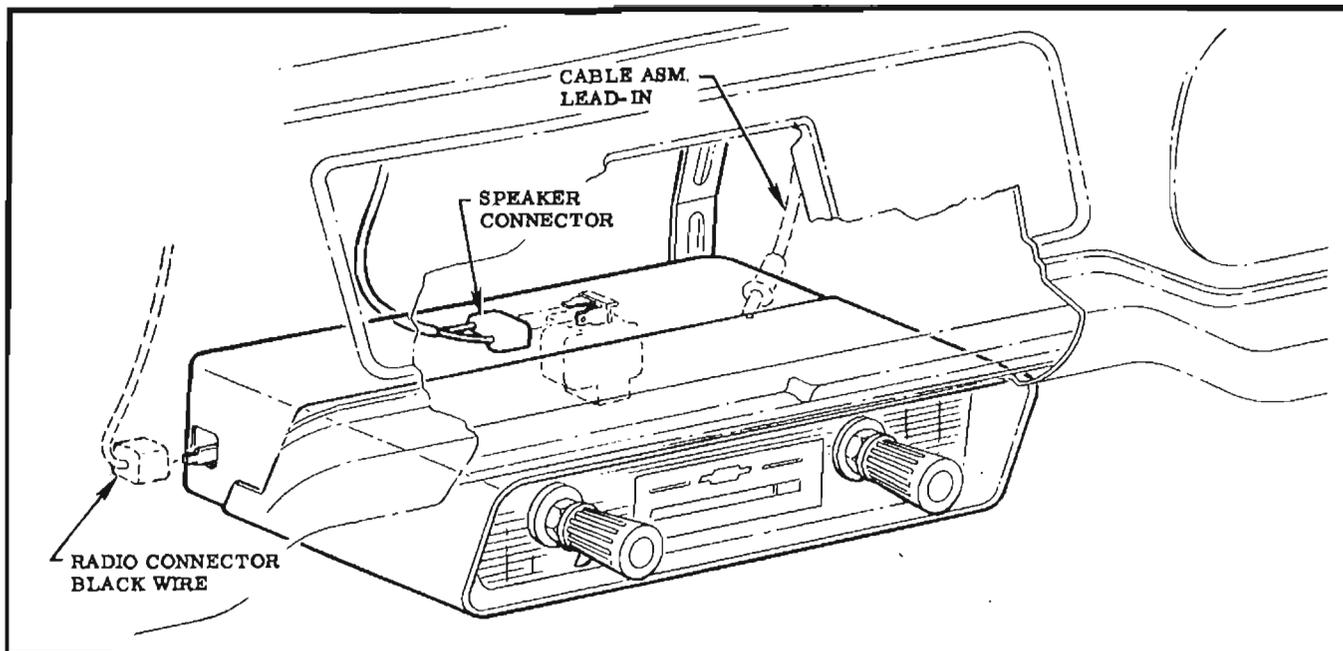

FIG. 2 CONNECTORS
STEP 7 CONNECT SPEAKER CONNECTOR TO PLUG AT BACK OF RECEIVER. INSERT CABLE ASM. LEAD-IN PLUG INTO SOCKET ON R. H. SIDE OF RECEIVER. SEE FIG. 2.
STEP 8 UNTAPE RADIO CONNECTOR FROM INSTRUMENT PANEL WIRING HARNESS & CONNECT IT TO PLUG ON RECEIVER. IF EXISTING HARNESS HAS NO RADIO CONNECTOR, PROCURE ACCESSORY HARNESS UNIT NO. 988350 FROM STOCK & INSTALL IN VEHICLE. SEE FIG. 2.